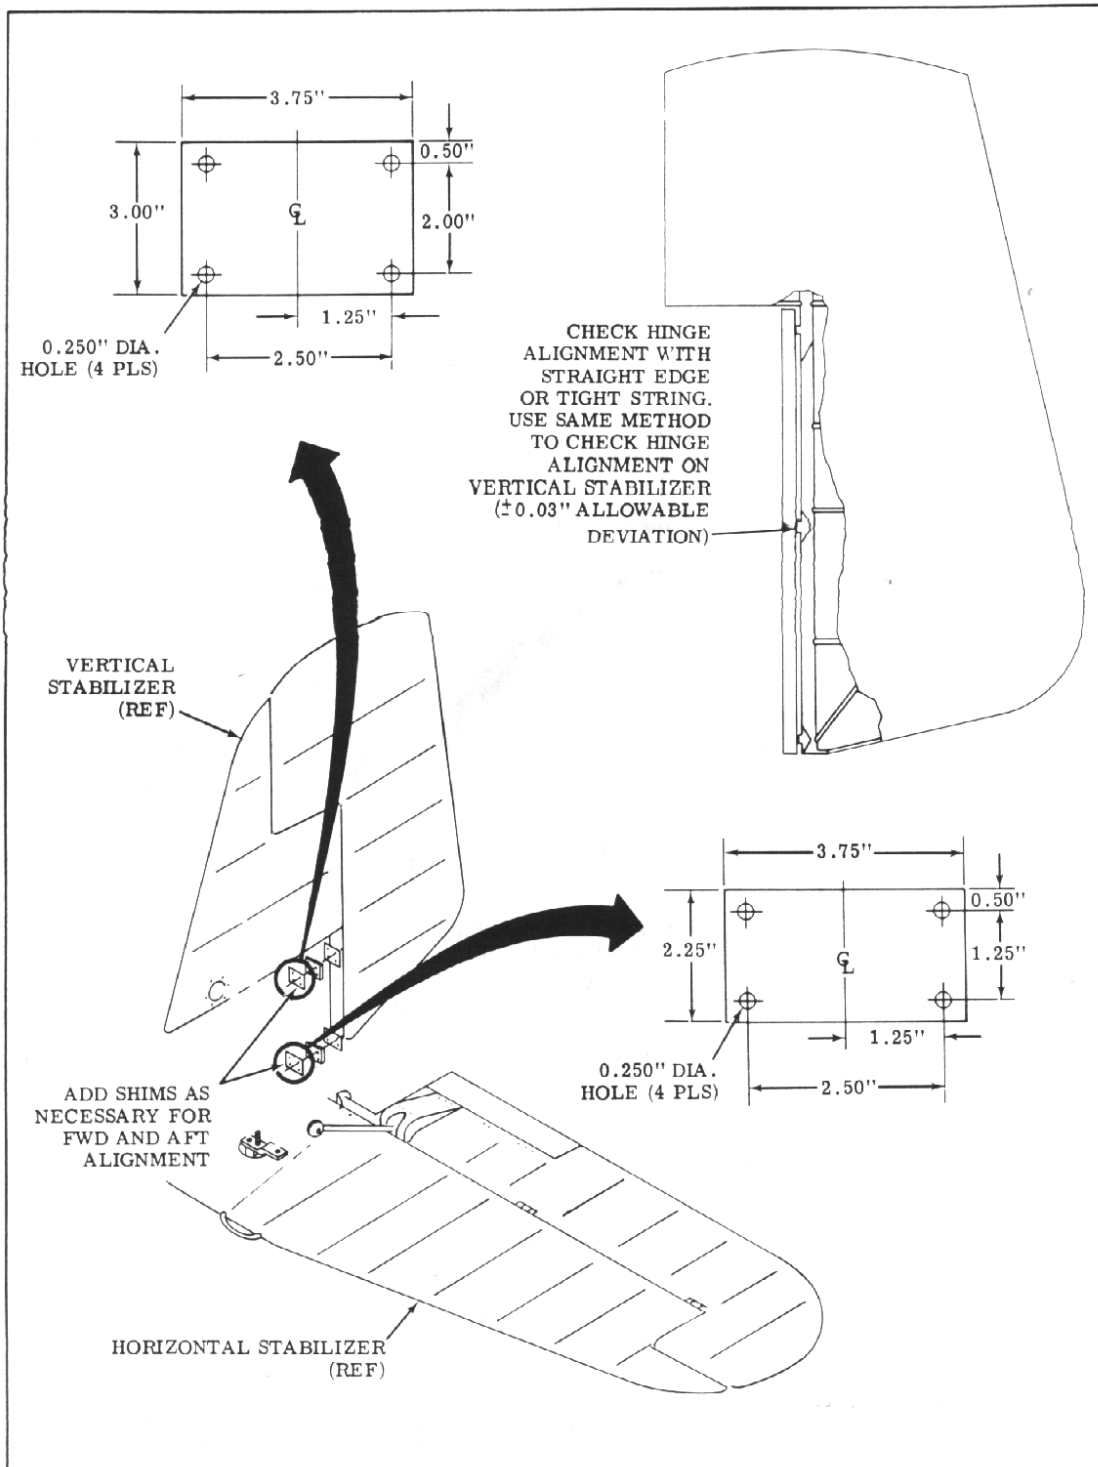

Figure 2.
- g. Check rudder hinges with straight edge or a string to assure proper alignment of hinge bushings (see Figure 2.).
9. If center hinge point does not align with vertical stabilizer hinge (forward and aft alignment), add shim(s), as necessary, to vertical stabilizer upper and lower attach point for proper alignment of hinges (see Figures 2.).
required) (see Figure 2.).